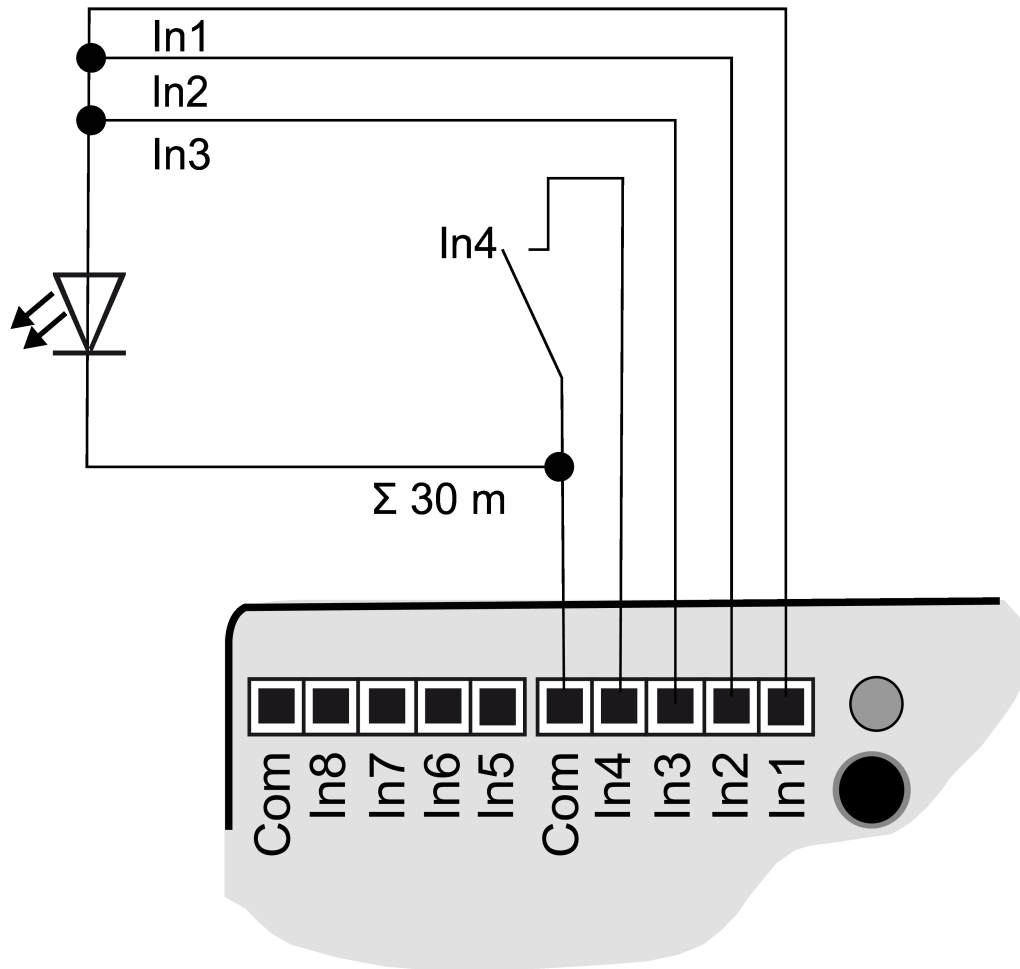

Figure 5: Connection example with outputs switched in parallel
- i** To increase the output current, outputs can also be switched parallel to each other with the same parameterization; in the example here, (see figure 5) In1-In3 are switched in parallel.